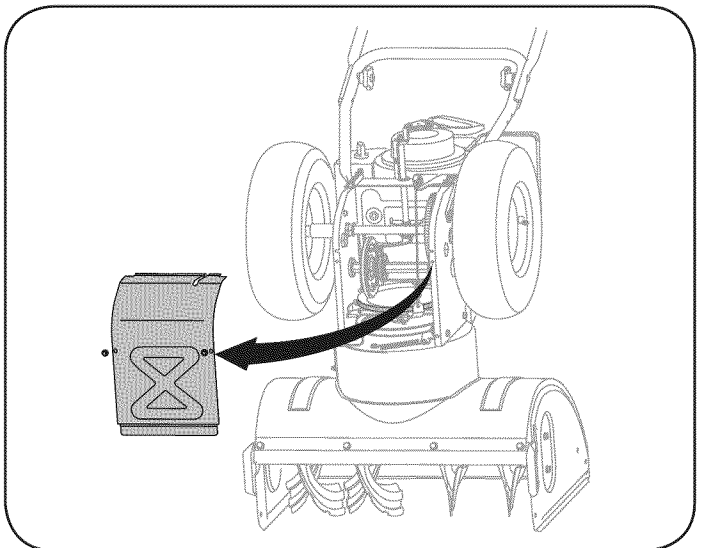

Figure 24
5. Remove the frame cover from the underside of the snow thrower by removing four self-tapping screws which secure it. See Figure 24.
- Remove the frame cover from the underside of the snow thrower by removing the self-tapping screws which secure it. Refer to Figure 24.